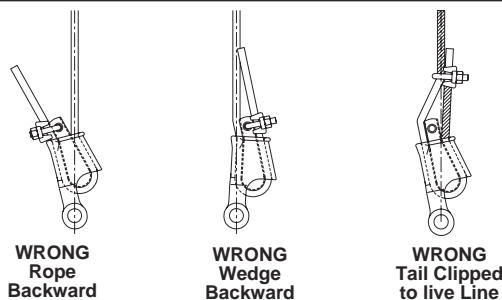

Figure 2
- Do not attach dead end to live end or install wedge backwards. (See Figure 2)